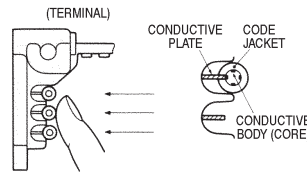

Fig. 3
3. Place the wires in grooves as shown in Fig. 3 and press them firmly so that the jacket of the wires get pierced by the conductive plate.